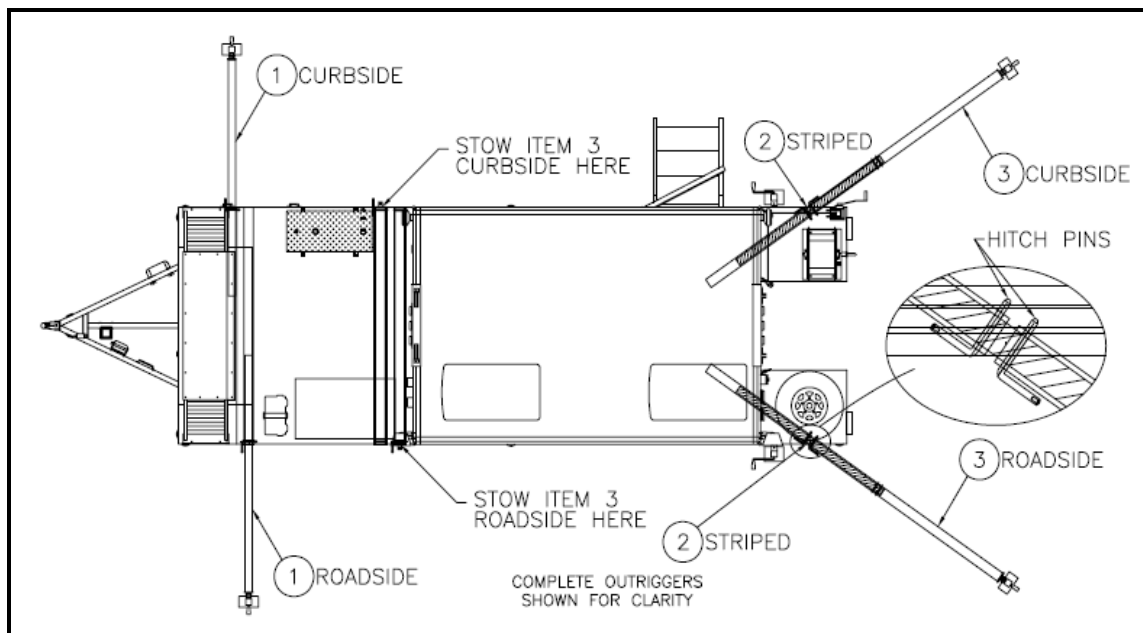

Fig. 5 Outrigger Assembly
3. Remove the hitch pin that holds the front curbside "outrigger" (item 1) in the stowed position. Carefully pull it out until the second set of pinholes is visible. Then reinsert the pin with the outrigger in the extended position (*see Fig. 5*). Repeat for the roadside. Next, remove the hitch pin that holds the rear curbside "outrigger" (item 2) in the stowed position. Carefully pull it out until the second set of pinholes is visible. Then reinsert the pin with the outrigger in the extended position. Now, add the extension (item 3) to the rear outrigger which is stowed under the curbside trailer frame, just in front of the shelter. Remove the hitch pin that holds the rear curbside extension "outrigger" (item 3) in the stowed position. Carefully pull it completely out and place it over the extended item 2 at the rear of the trailer until the 2 sets of pinholes are aligned. Then reinsert the pin with the outrigger in the fully extended position (*see Fig. 5*). Repeat for roadside.
6. Remove the rear outrigger leveling jacks and stow them in the storage box. Remove the hitch pins from the extension outriggers (item 3) and place into corresponding stowage tubes on each side of trailer (*see Fig. 5*). Remove the hitch pins from the outriggers (item 2) and slide them in to their stowed position and reinsert the hitch pins.